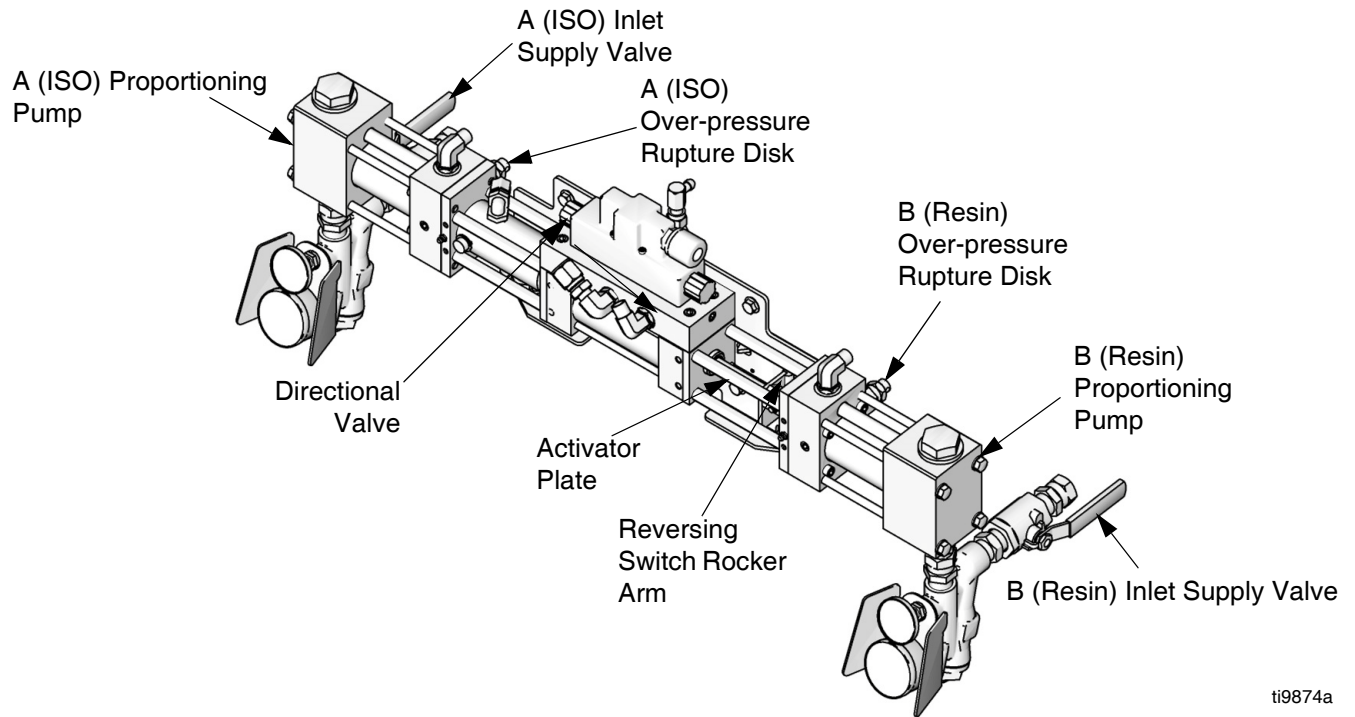

FIG. 1. Proportioning System
1. For the proportioning pumps to reverse direction, the activator plate (219) must contact the rocker arm to activate the reversing switch (210). Check for a bent or loose activator plate, rocker arm, or reversing switch. See FIG. 1 on page 25, and the parts drawing on page 59.
2. Check the function of the directional valve. Direction indication lights should switch on and off based on the reversing switch (210) position. LEDs D19 and D20 (near J5 reversing switch connector on motor board) should alternately illuminate based on the reversing switch position.